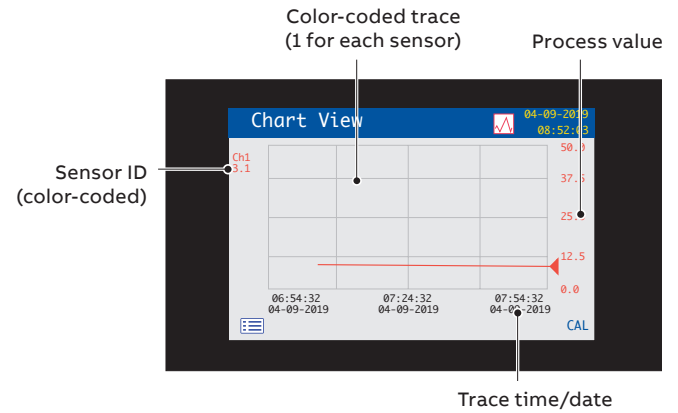

Figure 24 Chart View
- **Chart View** – represents the sensor readings as a series of color-coded traces – see Figure 24